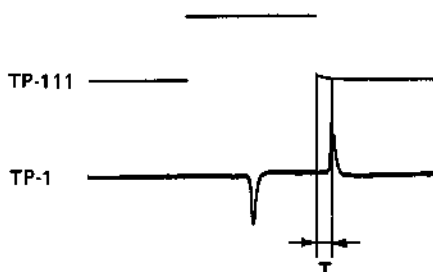

Fig. 5-8 Tracking preset
6. Connect the second probe of the oscilloscope to TP-111 (DRUM F.F.) to the Y & PRE/REC board. Observe the two waveforms at the same time and adjust R42 for  $T = 0.5 \pm 1$  msec in the Fig. 5-8.